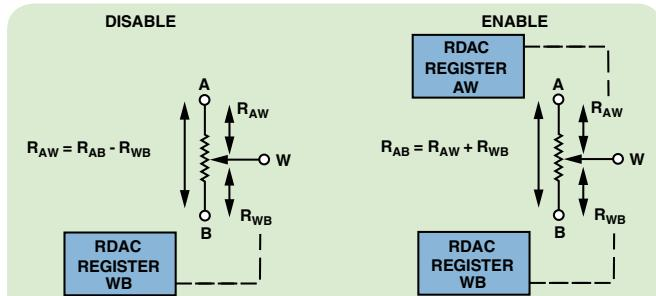

Figure 10. Linear gain setting mode.
- The new patented linear gain setting mode allows controlling the potentiometer as two independent rheostats, R_{AW} and R_{WB} , connected in a single point, W terminal (see Figure 10). This mode is ideal in equations where the output depends on the ratio of two resistors, $G = R_1/R_2$, for example, in an inverting amplifier. This mode can be found, for example, in the AD5141, offering a maximum ratio error below $\pm 1\%$.